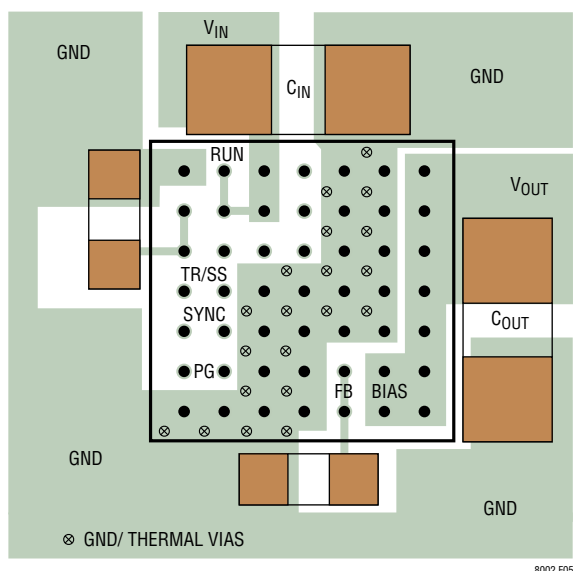

Figure 5. Layout Showing Suggested External Components, GND Plane and Thermal Vias
Most of the headaches associated with PCB layout have been alleviated or even eliminated by the high level of integration of the LTM8002. The LTM8002 is nevertheless a switching power supply, and care must be taken to minimize EMI and ensure proper operation. Even with the high level of integration, you may fail to achieve specified operation with a haphazard or poor layout. See Figure 5 for a suggested layout. Ensure that the grounding and heat sinking are acceptable.
- Use vias to connect the GND copper area to the board's internal ground planes. Liberally distribute these GND vias to provide both a good ground connection and thermal path to the internal planes of the printed circuit board. Pay attention to the location and density of the thermal vias in Figure 5. The LTM8002 can benefit from the heat-sinking afforded by vias that connect to internal GND planes at these locations, due to their proximity to internal power handling components. The optimum number of thermal vias depends upon the printed circuit board design. For example, a board might use very small via holes. It should employ more thermal vias than a board that uses larger holes.